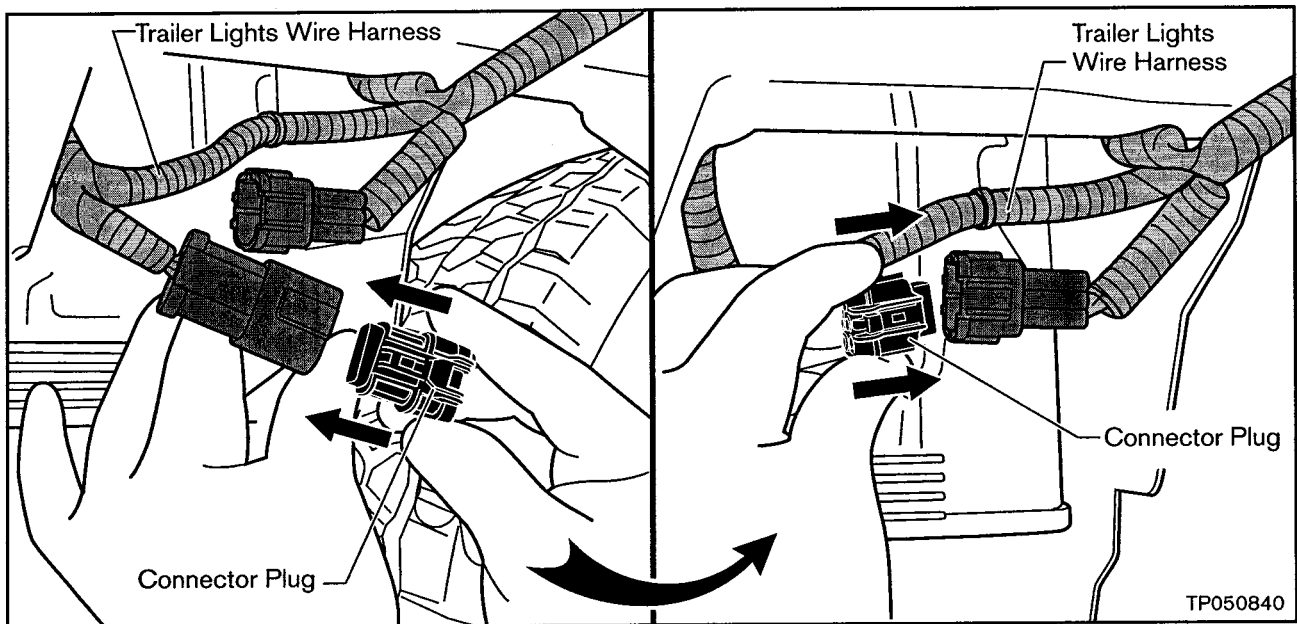

Figure 4
5. Install Plastic Connector Plugs into the vehicle side of the Trailer Lights Wiring Harness Connectors (see Figure 4).